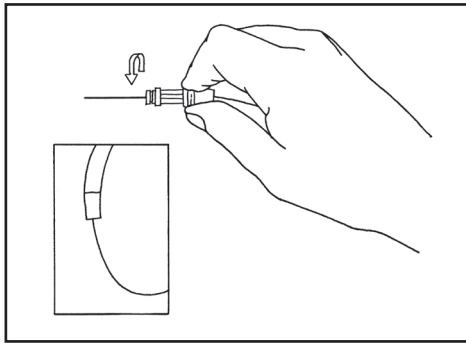

Figure 3.
Step 2. If the loop still exists, rotate the wire one-half turn in the other direction (counterclockwise) and reevaluate (Reference Figure 3).